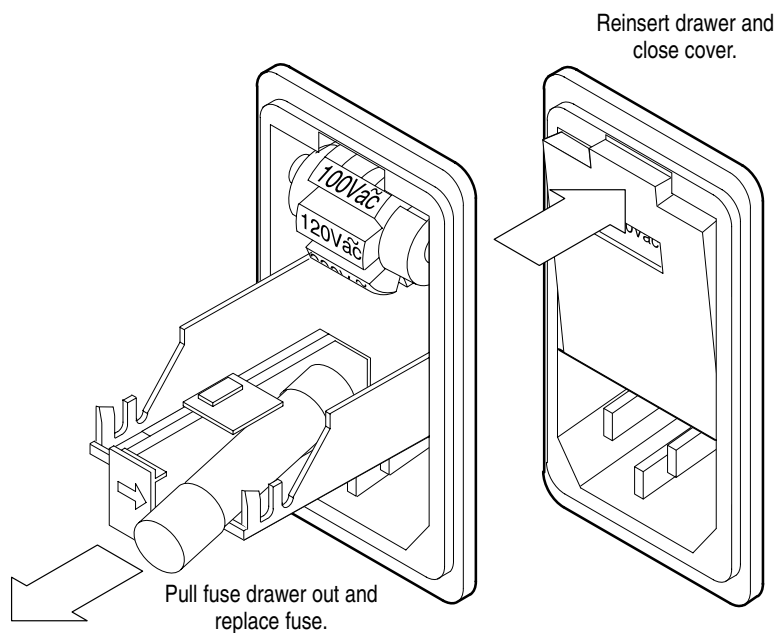

Figure 2: Replacing the Line Fuse
2. Identify the fuse and replace it if necessary with the type specified in *Appendix C: Replaceable Parts* on page 37. See Figure 2 to replace the fuse.